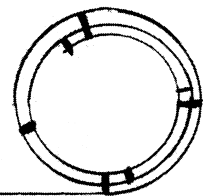

Figure 3
4. Carefully cut the next band of tape holding the outermost wrap as shown in Figure 3. This will allow the luff to uncoil another 90 degrees.